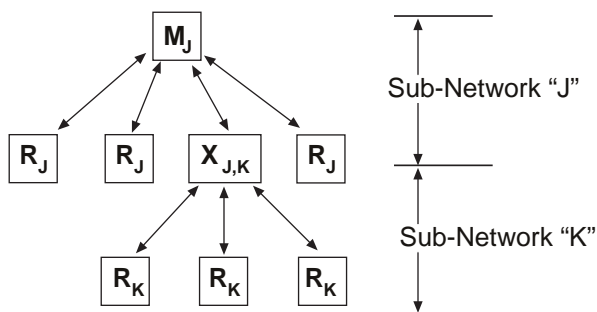

Figure 17. Simple Extended SAF Network
The following example depicts a two-level network utilizing a single Master (M) and an Extension (X) radio. See Figure 17.